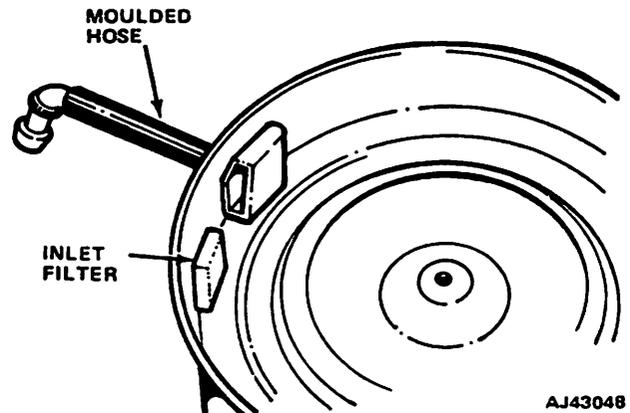

Fig. 1J-149 PCV Air Inlet Filter—Four- and Six-Cylinder Engines
(1) Rotate retainer to remove from air cleaner (fig. 1J-149).